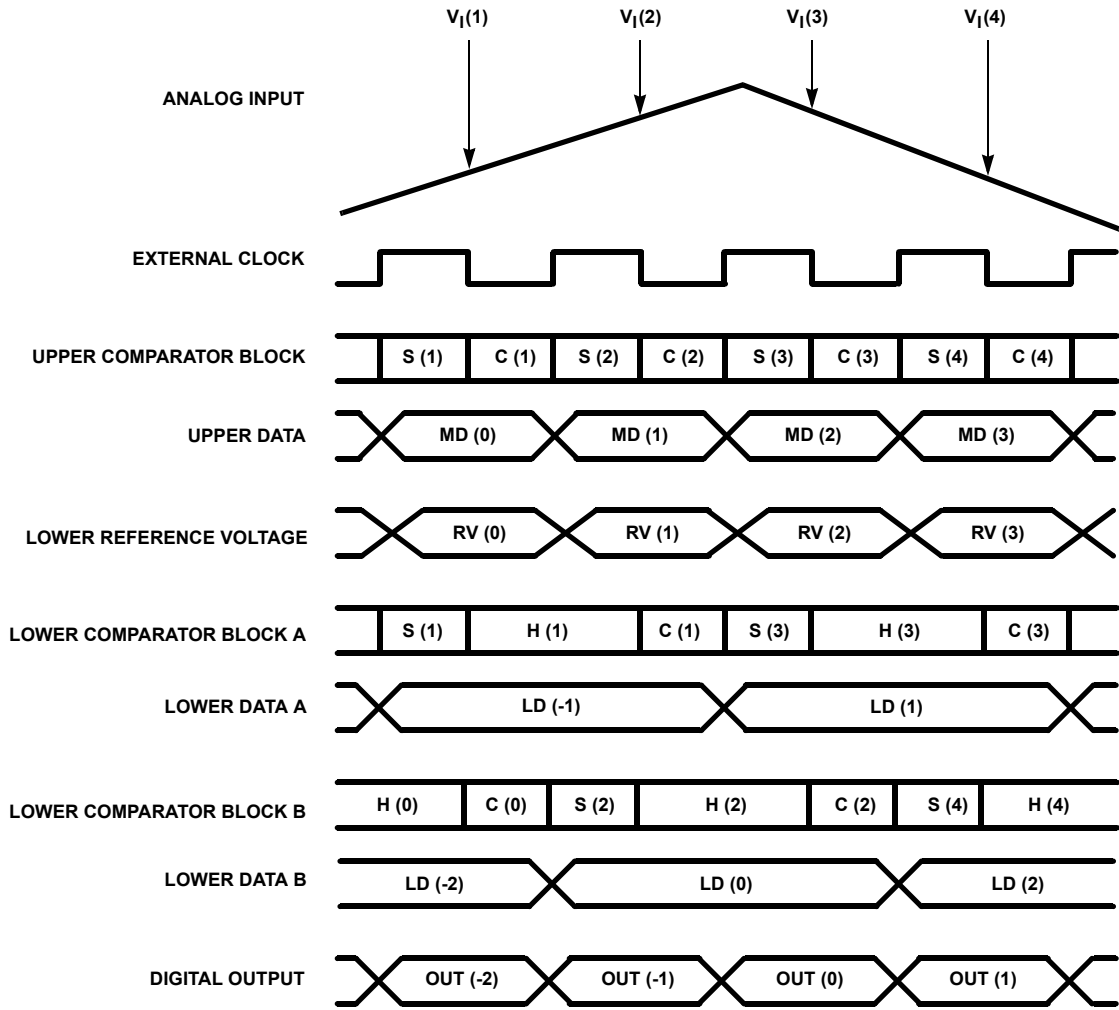

FIGURE 2.
The operation of the part is illustrated in Figure 2. A reference voltage that is between V_{RT} - V_{RB} is constantly applied to the upper 4-bit comparator group. $V_I(1)$ is sampled with the falling edge of the first clock by the upper comparator block. The lower block A also samples $V_I(1)$ on the same edge. The upper comparator block finalizes comparison data MD(1) with the rising edge of the first clock. Simultaneously the reference supply generates a reference voltage RV(1) that corresponds to the upper results and applies it to the lower comparator block A. The lower comparator block finalizes comparison data LD(1) with the rising edge of the second clock. MD(1) and LD(1) are combined and output as OUT(1) with the rising edge of the third clock. There is a 2.5 cycle clock delay from the analog input sampling point to the corresponding digital output data. Notice how the lower comparator blocks A and B alternate generating the lower data in order to increase the overall A/D sampling rate.